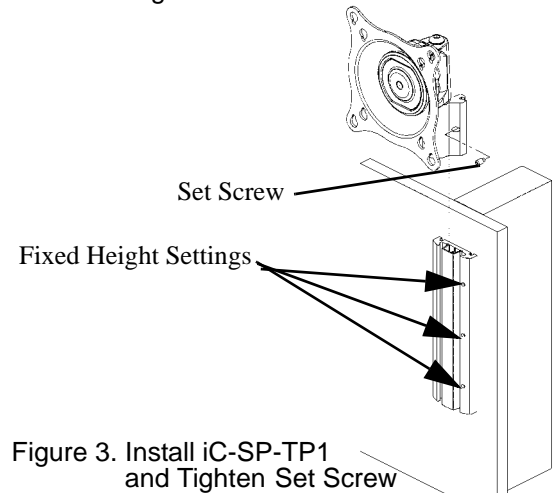

Figure 3. Install iC-SP-TP1 and Tighten Set Screw
- A. Install the mount on the wall plate, set to desired height at one of the fixed height settings and secure by tightening the set screw (see Figure 3).
- H. Install the mount on the wall plate, set to desired height at one of the fixed height settings and secure by tightening the set screw (see Figure 3).